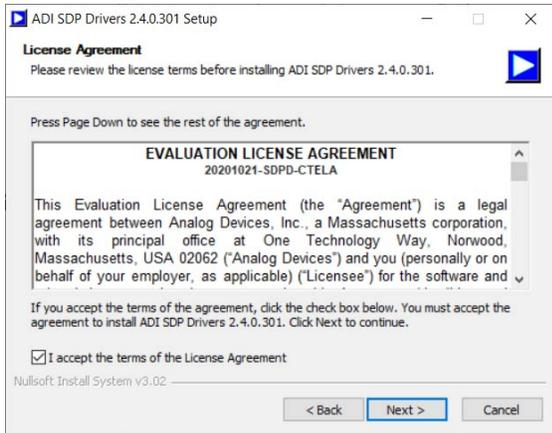

Figure 7. SDP Platform License
2. A license agreement then appears. Read the agreement, select **I accept the License Agreement**, and click **Next** and then **I Agree** (see Figure 7).